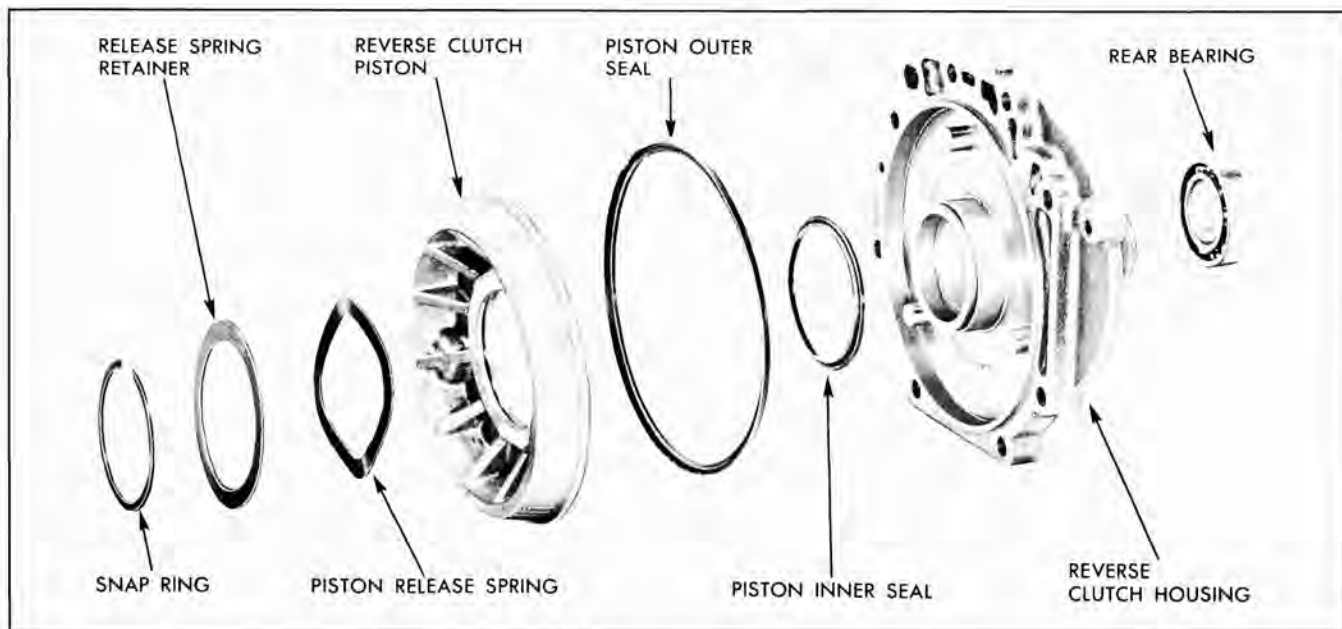

Fig. 127 Reverse Clutch Piston, Housing and Parts—Exploded
4. Observe reverse clutch piston for scoring, nicks, or burrs (Fig. 127). Check oil seal grooves to see that they are in good condition.
5. Place release spring and retainer on piston and install large retaining snap ring (Fig. 127). **NOTE:** Rear bearing will be installed after reverse piston housing is attached to transmission case.